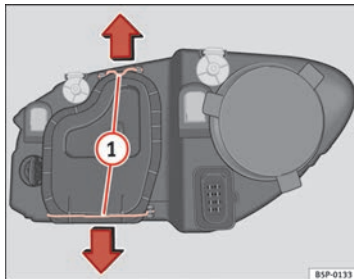

Fig. 183 Dipped beam headlights
- Move the loops ⇒ Fig. 183 ① in the direction of the arrow and remove the cover.